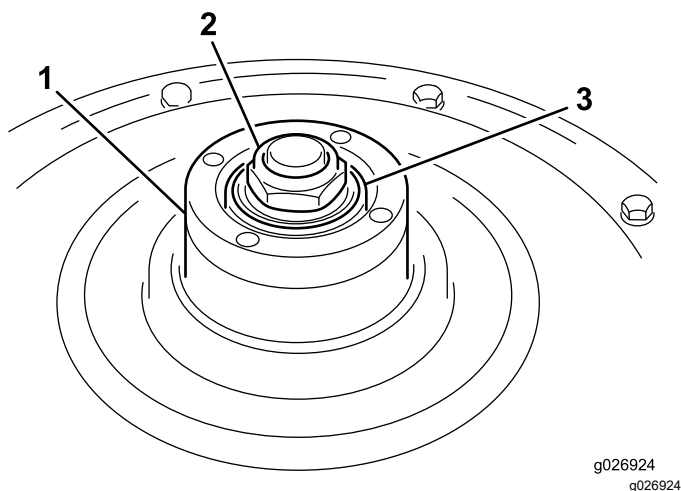

Figure 13
2. Rotate the wheel hub (Figure 13) to check the bearing adjustment. You should feel a slight drag when you rotate the hub. If drag is not evident, tighten the wheel hub nut (Figure 13) until you feel a slight drag when you rotate the hub.
3. Check the O-ring to assure it is not damaged, and make sure that it is seated in the inside diameter of the wheel hub (Figure 13).